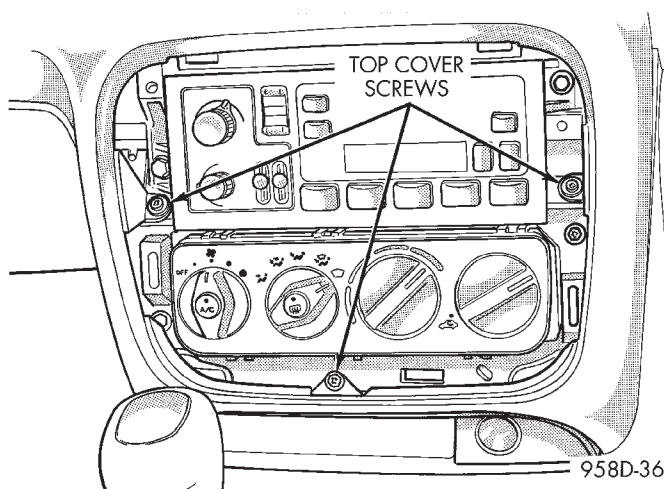

Fig. 63 Instrument Panel Top Cover—Center
(4) Remove screws holding instrument panel top cover to center of instrument panel (Fig. 63).